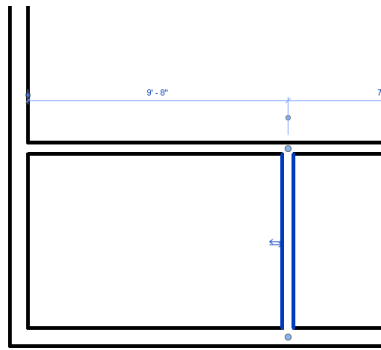
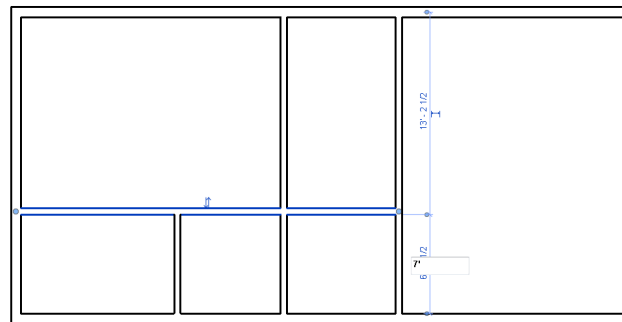

Figure 3-63 The square dot moved
Figure 3-65 Entering the value to adjust the dimension of the horizontal interior wall
- f. Edit the interior walls location to achieve clear internal distances, refer to Figures 3-63 and Figure 3-65.
2. Three blue dots define the extents of the dimensions. Click on the dot on the extreme left; the dot and dimension witness line moves to the interior face of the exterior wall, as shown in Figure 3-63.
6. Now, click on the blue dots of temporary dimension from the lower external wall and the upper interior wall. Enter the value **7'(2134 mm)**, as shown in Figure 3-65 and press ENTER. On doing so, the interior wall is moved to the desired location. Now, press ESC to exit the **Modify | Walls** tab.
This completes the interior wall layout for the *Apartment 1* project, refer to Figure 3-65.